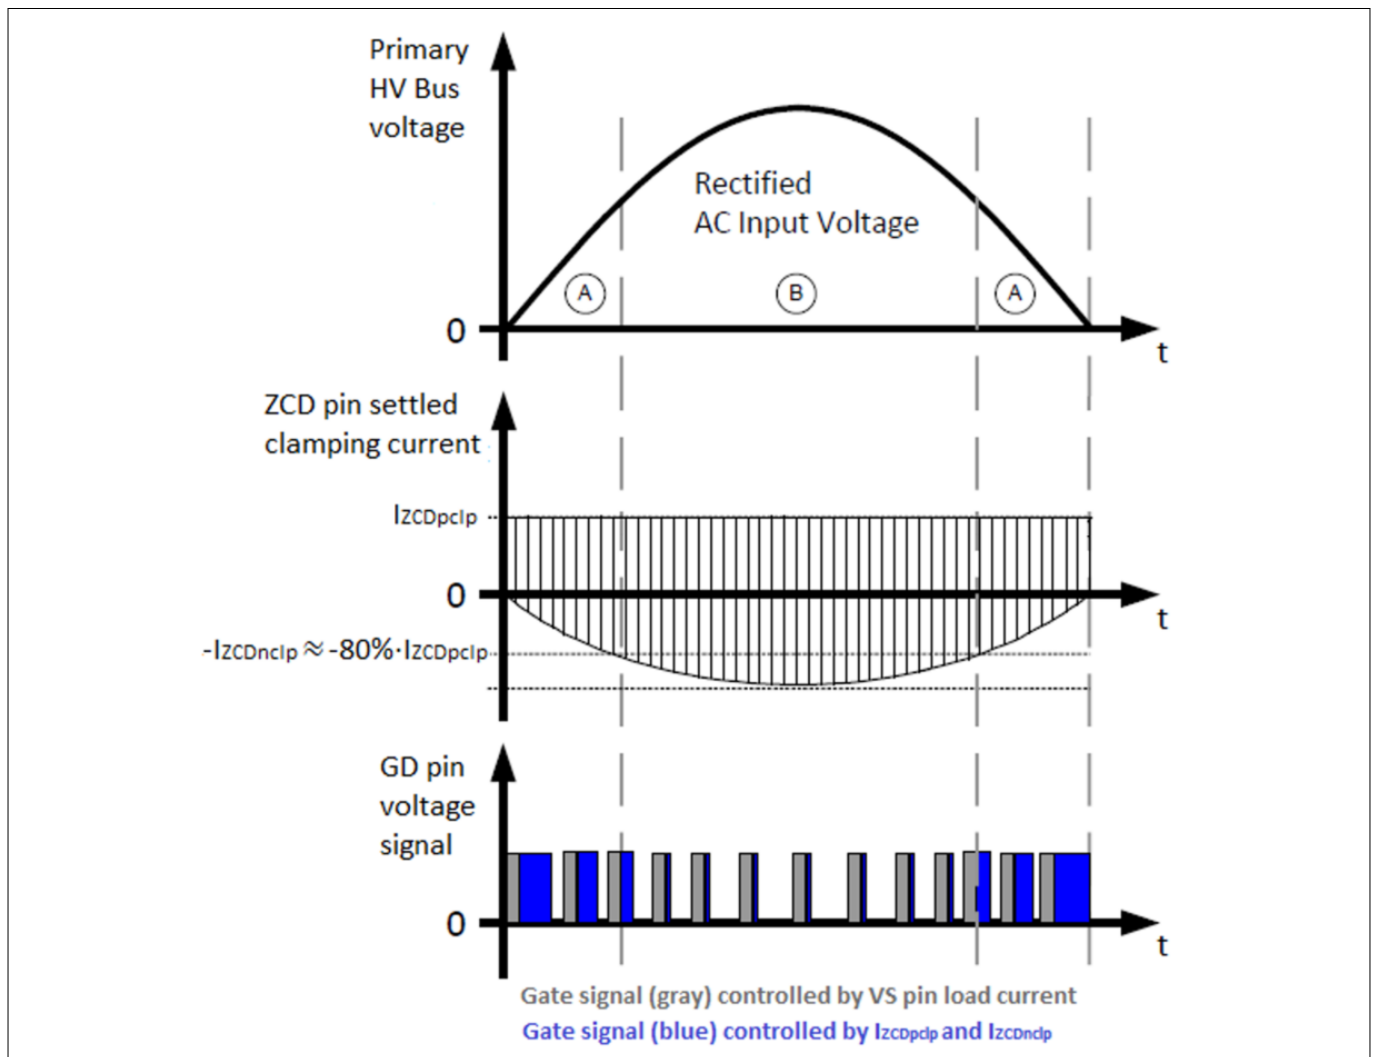

Figure 8 ICL8830 THD correction with on-time extension near AC input voltage zero crossing
As shown in Figure 8 area A, ICL8830 increases the on-time extension near AC input voltage zero crossing, where $I_{ZCDnclp}$ is less than 80% of $I_{ZCDpclp}$.
- the on-time extension effect for THD correction (see Figure 8)